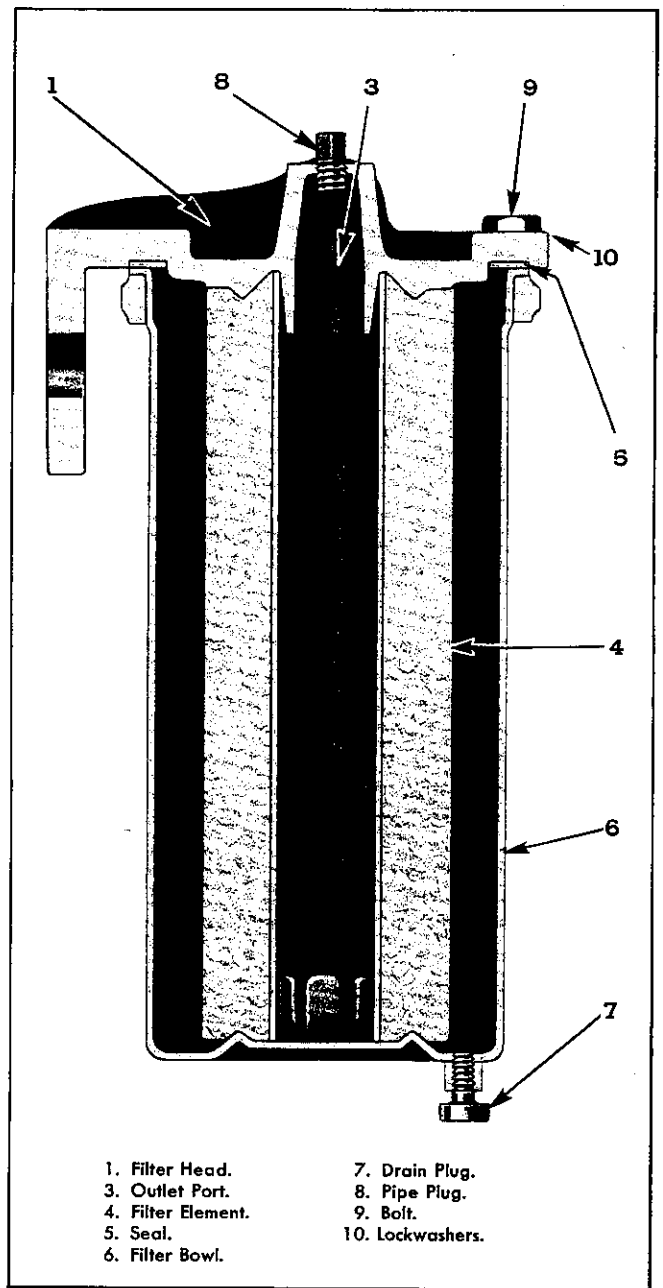

Fig. 45—Primary Fuel Oil Filter Assembly.
**Description**—As seen in Fig. 45, the replaceable-element primary filter consists of a cast iron head (1) serving to direct the flow of fuel and support the entire assembly; a replaceable fabric element (4); a bowl (6), acting as a container for fuel and the element; and a seal (5) insuring a tight connection
**Replace Element—Primary Fuel Filter**—When it becomes necessary to renew the element in the primary filter, the procedure should be as follows: (See Figs. 45 and 46.)
2. Remove four bolts (9) holding bowl (6) to filter head (1). Lift bowl away from engine.
3. Remove old element (4) and wash bowl thoroughly in clean fuel oil. After setting new element into place, fill the area between element and bowl with clean fuel oil until bowl is about  $\frac{2}{3}$  full.
4. Using new seal (5), if necessary, set bowl into place under head and secure with the four bolts (9).
5. Remove small pipe plug (8) in top surface of filter head, and with a small funnel, fill remaining space in filter bowl with clean fuel oil. After running engine for a few minutes, inspect filter for leaks.